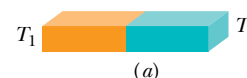

Fig. 18-43 Problem 56.
- 56 **SSM** The giant hornet *Vespa mandarinia japonica* preys on Japanese bees. However, if one of the hornets attempts to invade a beehive, several hundred of the bees quickly form a compact ball around the hornet to stop it. They don't sting, bite, crush, or suffocate it. Rather they overheat it by quickly raising their body temperatures from the normal 35°C to 47°C or 48°C , which is lethal to the hornet but not to the bees (Fig. 18-43). Assume the following: 500 bees form a ball of radius $R = 2.0$ cm for a time $t = 20$ min, the primary loss of energy by the ball is by thermal radiation, the ball's surface has emissivity $\epsilon = 0.80$, and the ball has a uniform temperature. On average, how much additional energy must each bee produce during the 20 min to maintain 47°C ?